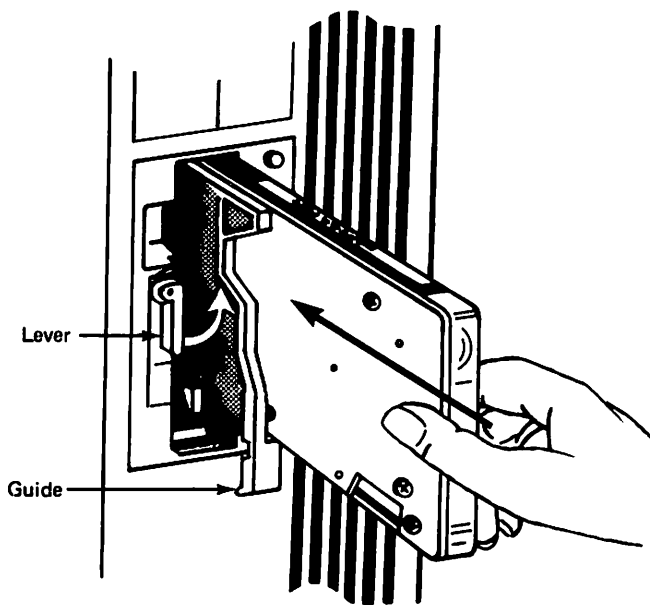

Figure 1 Inserting a streaming tape cartridge
1. Turn the lever clockwise 1 quarter turn to unblock the drive unit slot (Figure 1).